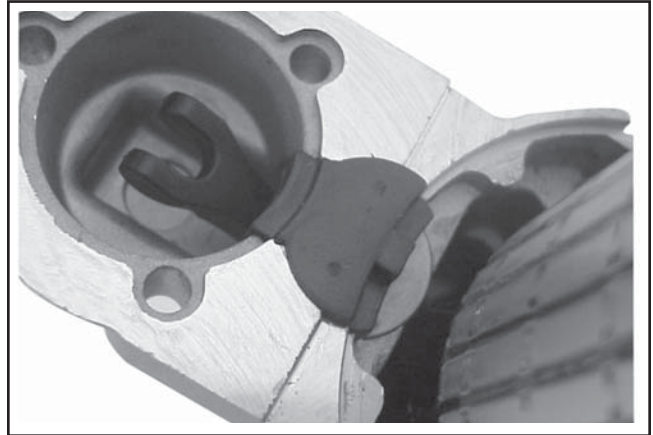

Figure 7-27. Installing Backing Plate and Grommet.
7. Install the backing plate, followed by the rubber grommet, into the matching recess of the drive end cap. The molded recesses in the grommet should be **out**, matching and aligned with those in the end cap. See Figure 7-27.